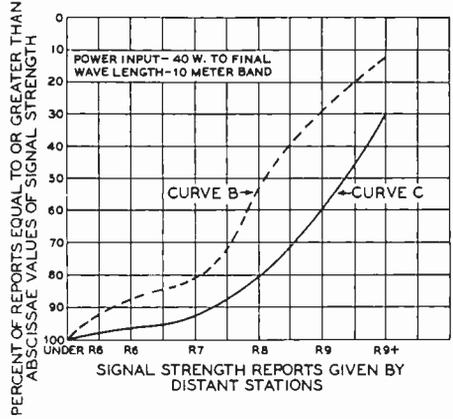

Figure 3. Cumulative percentage curves for antennas "B" and "C".
**Analysis of the Curves of Figure 3**
The curves of figure 3 are the results of a similar study on two other different types of antennas. This figure shows the performance of two antennas plotted to the same scale with the same number of calls made on each. It is evident from an analysis of the two curves in figure 3 that "C" is the better antenna.